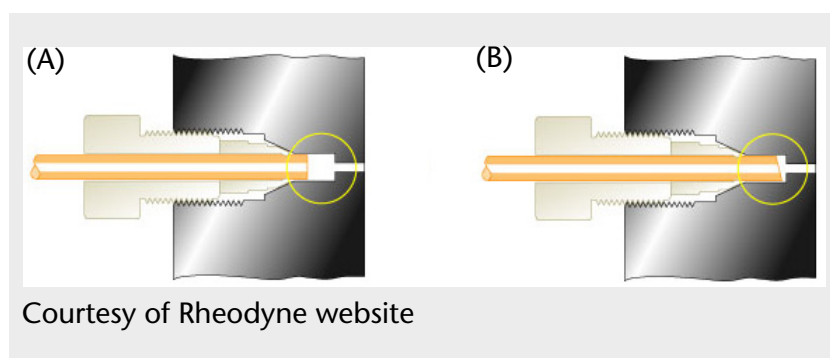

Fig. 88 Poor connections result if tubing is not bottomed in the port (A) or is not cut square (B)
3. As you insert PEEK tubing into a port, ensure that the end of the tubing makes contact with the bottom of the port. Then tighten the fitting finger-tight. See Figure 88.